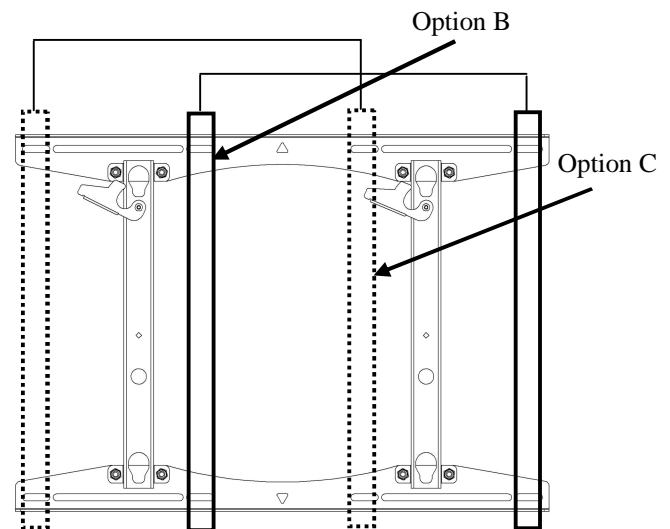

Figure 6. Mounting Holes – 16" Apart on Center (Options B and C)
- **Option B.** Install four 5/16" x 2-1/2" lag bolts (50) and four 5/16" washers (60) (two top and two bottom) into the mounting holes that are *right of center* on dual wood studs 16" apart as shown in Figure 6.
- **Option C.** Install four 5/16" x 2-1/2" lag bolts (50) and four 5/16" washers (60) (two top and two bottom) into the mounting holes that are *left of center* on dual wood studs 16" apart dual wood studs 16" apart on center as shown in Figure 6.